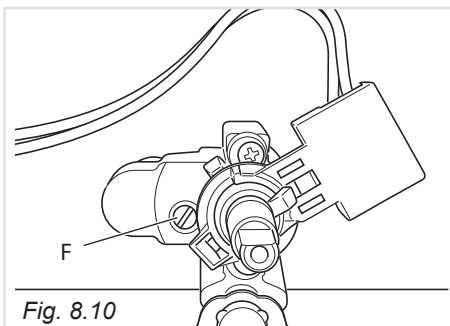

Fig. 8.10
- With a thin screwdriver turn the screw "F" until adjustment is correct (fig. 8.10).